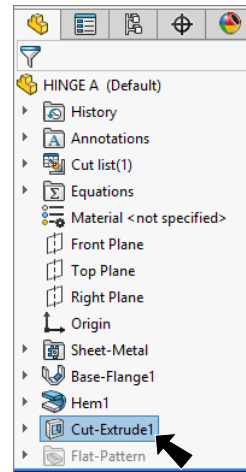

Fig. 16
Step 1. Click **Cut-Extrude1** in the Feature Manager to select feature, **Fig. 16**.